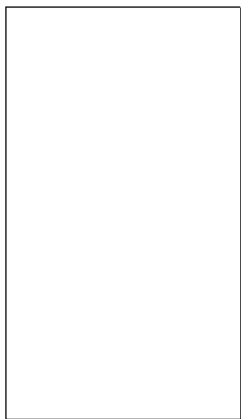

Figure 4-2: A rectangle drawn by using absolute coordinates.
3.  Choose Zoom Out from the Zoom flyout on the Standard toolbar. If you still can't see the entire rectangle, choose Zoom Out again until you can see it. Your picture should look like Figure 4-2.